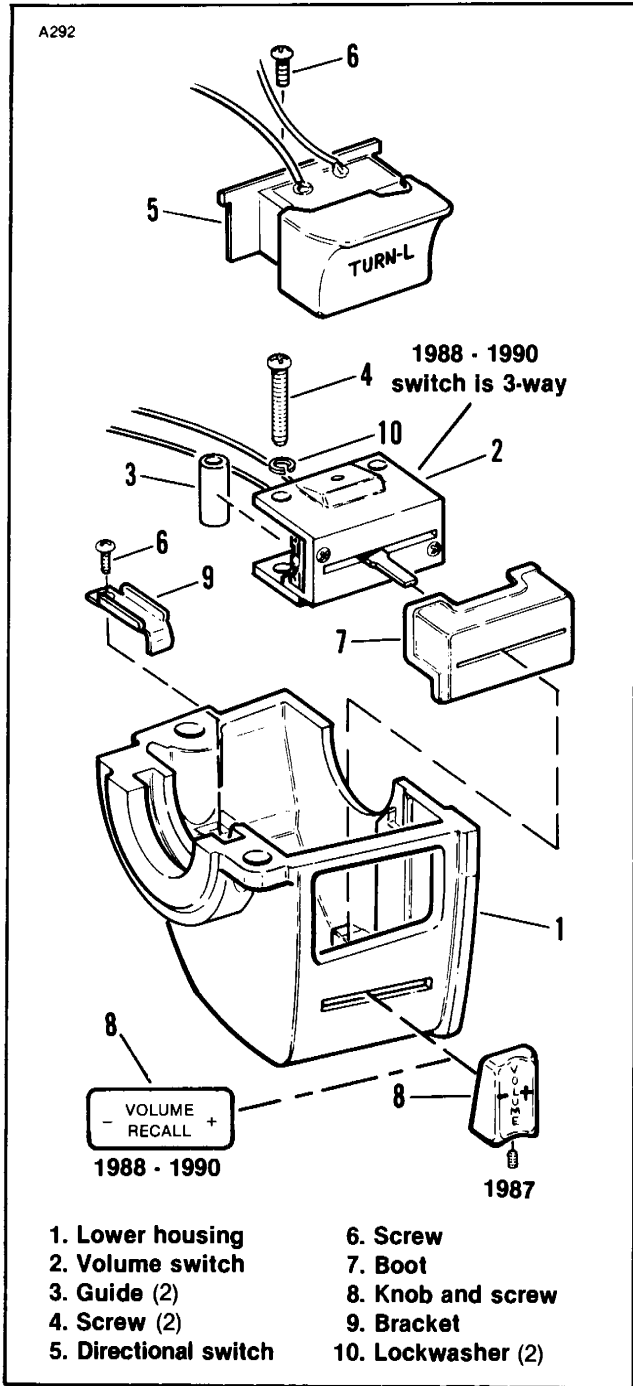

Figure 2-113. Left Lower Housing Assembly
1. See Figure 2-113. Remove the two clamping screws and separate switch halves. Loosen set screw in bottom of knob (8) (if equipped) and remove knob. Remove left directional switch (5) and volume switch (2) by removing screws (6 and 4).
1. See Figure 2-113. With volume control switch (2) in